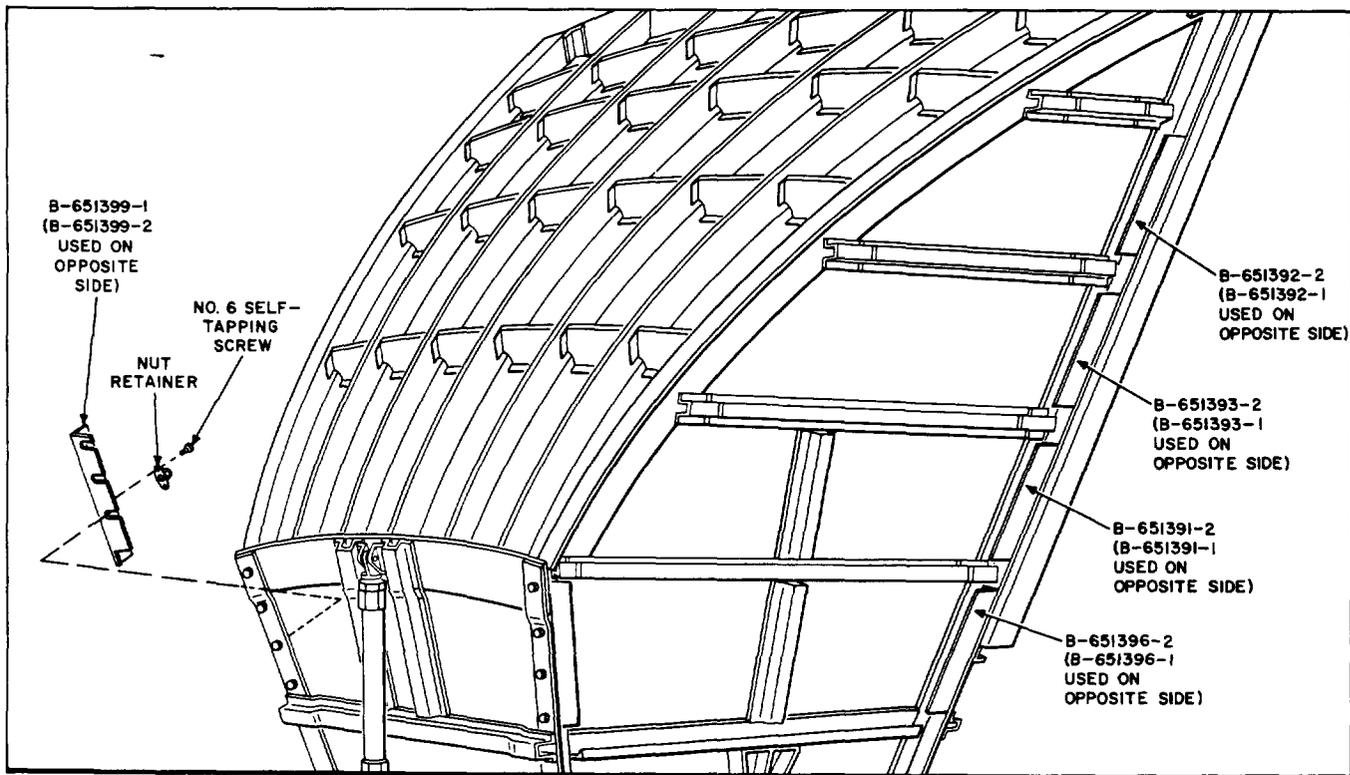

Fig. 5 — Placing Mounting Angle Assemblies
5.17 Locate the two rear angle assemblies used in mounting the side panels, as shown in Fig. 5. Position each angle so the outer surface of the angle is in the same plane as the lower
5.18 Locate the remaining four front angle assemblies (Fig. 5) in their respective locations so the pre-assembled nut retainers capture the existing stop nuts. Rotate the existing nuts if necessary for alignment with the one nut retainer already mounted on the angle. The angles shall be positioned so the outside surface of the angle is in the same plane as the offset portion of the hat sections. Drill the necessary 0.125-inch diameter holes and drive in #6 self-tapping screws to secure the nut retainers and angles.